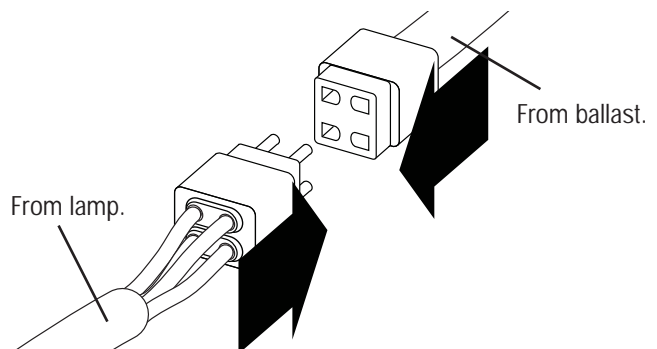

Fig. 13 Plug lamp connector into electrical harness.
6. Plug lamp connector into the electrical harness connector. The harness connector is asymmetrical and can only be attached one way. If the harness does not attach easily, rotate 90 degrees and try again. (See fig.13)